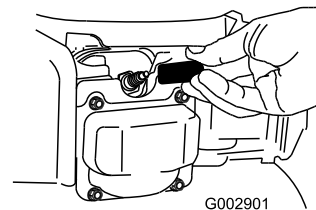

Figure 39
2. Disconnect the spark-plug wire from the spark plug (Figure 39).